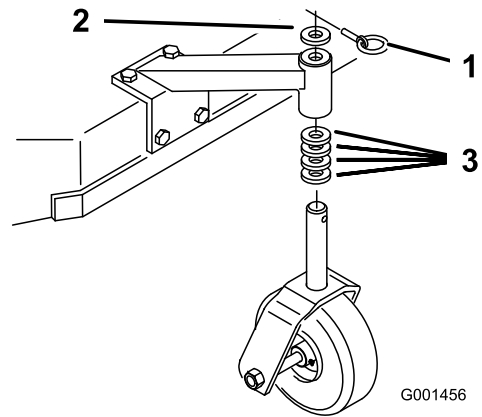

Figure 12
- Using the Height-of-Cut Chart, adjust the caster spacers to match with the axle hole selected (Figure 12).
- Remove the latch pin, slide the caster from the support, and change the spacers (Figure 12).
- Install the caster in the support and insert the latch pin (Figure 12).